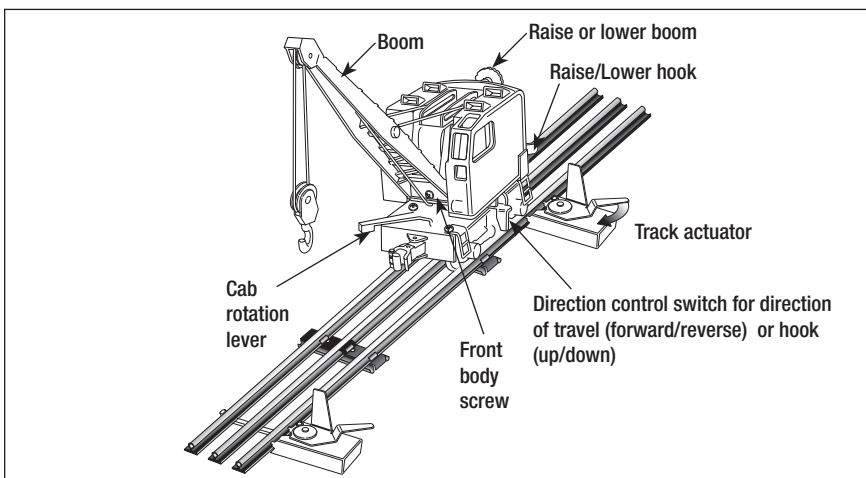

Figure 2. Crane controls
Two track actuators are included with the Burro Crane. The track actuators change the position of the direction control switch, reversing the direction of the crane. The direction control switch is illustrated in Figure 2 on page 4.
Note! Be sure that the vertical fin on the actuator is positioned on the side of the Burro Crane with the direction control switch. This switch is shown in Figure 2 on page 4.
Your Burro Crane has several functions, including cab rotation, boom adjustment, and an operating hook. Refer to Figure 2 for the locations of the Burro Crane controls. Your Burro Crane operates best at 9-18 volts (AC).